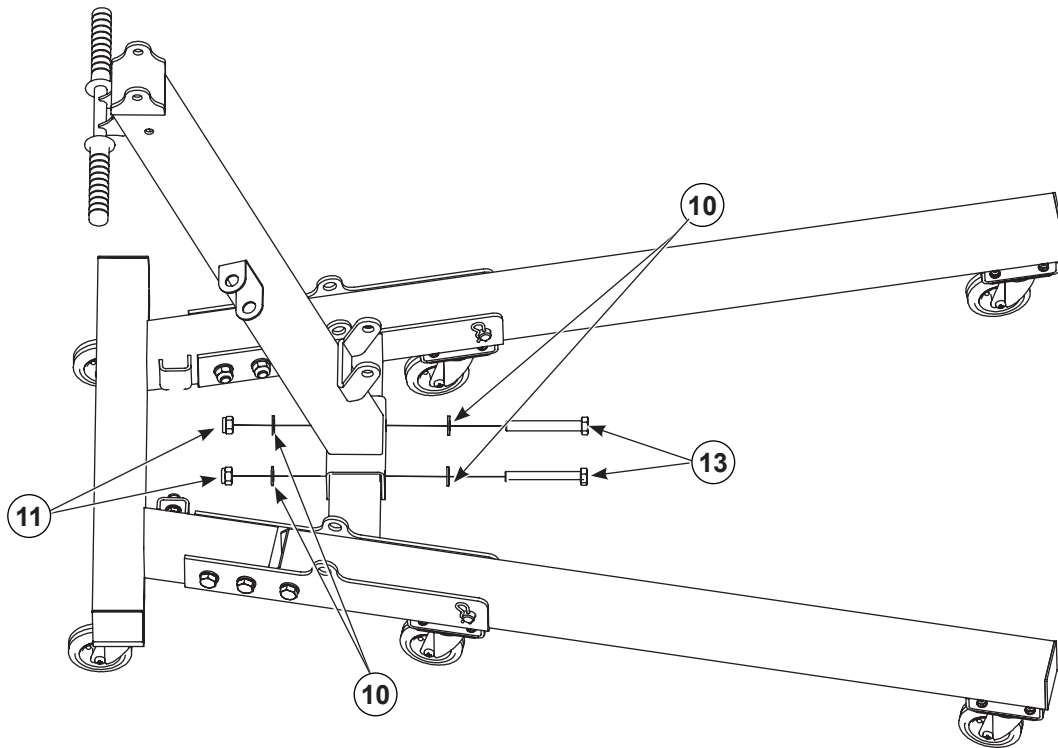

Figure 9 Boom Support Post Installation to Base (2 of 2)
2. See Figure 9. Install lock washer (10) and bolt (13) to join boom support post to base.
3. Install lock washer (10) and nut (11) to bolt (13).
4. Utilizing a wrench or equivalent tool, tighten nut (11) to 118.0 ft-lb (160 N•m).